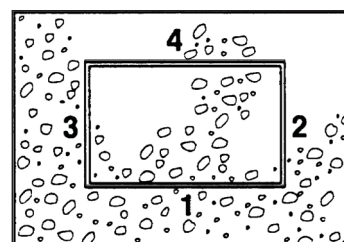

Figure 5. Making Cuts
2. Make your cuts in the order shown in Figure 5.